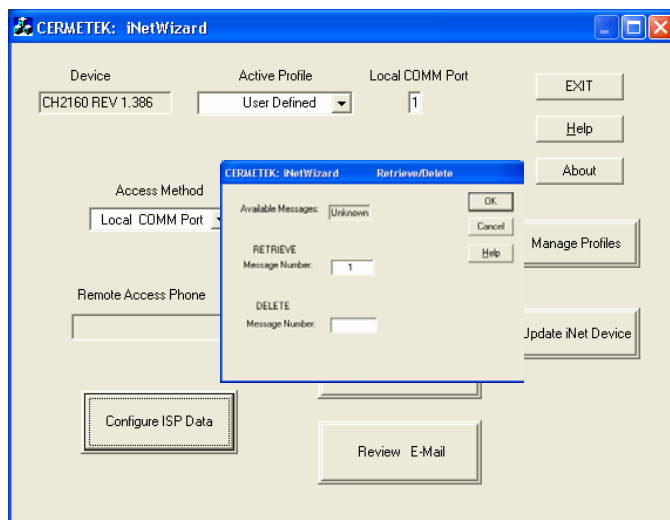

Figure 34. Retrieve Data pop-up window per Example 7.
- Step 2. Single click on RETRIEVE EMAIL button. The pop-up RETRIEVE/DELETE window will appear. See Figure 34. Note that this window is used to specify both the Retrieve and/or the Delete message #.